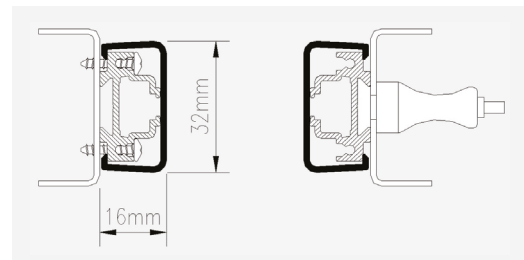

Fig 3: E32 on the door leading edge / slam post with selftapping screws on left and bolts on right
1. Install the detectors on the door leading edge / slampost using either the self-tapping screws or the bolts provided (Fig 3).